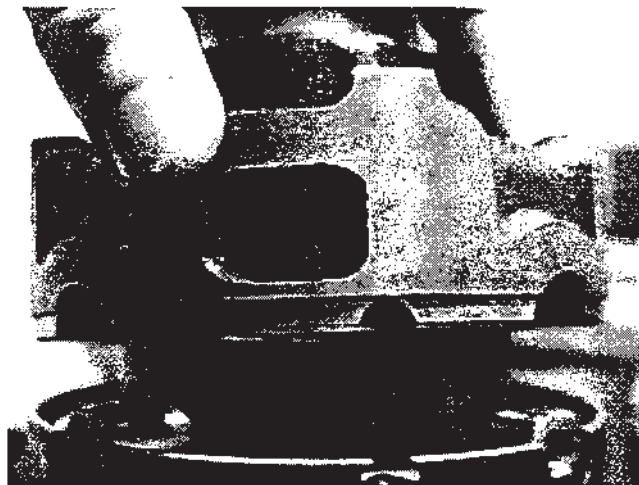

Figure 8
NOTE: It is important to re-assemble the differential case halves in their original relative positions. Place punch marks near each other on each half before disassembly. Note that some cases may already have been marked at the factory (as shown in **Figure 8**).
12. **Line up the alignment marks** on the top and bottom halves of the case and carefully lower the top half over the side gear hub onto the bottom half (**Figure 8**). Install the bolts. If the bolt holes are in the opposite end of the case, hold it tightly together to turn it over. Torque the bolts to their correct